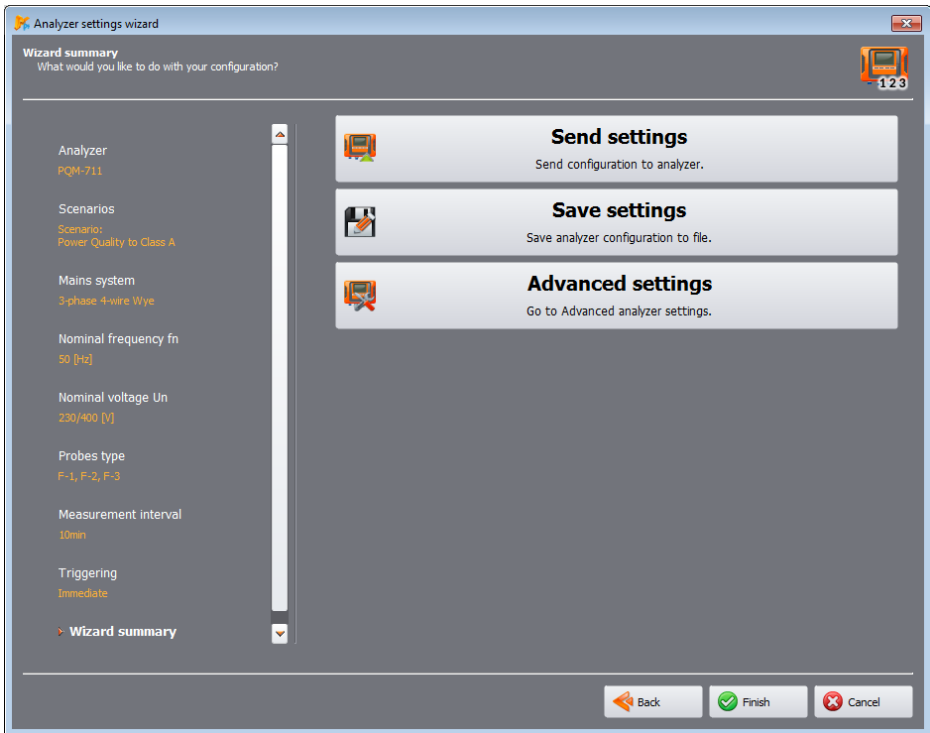

Fig. 15. Settings wizard – summary.
- **WIZARD SUMMARY** – the last step of the wizard (Fig. 15) allowing user to send the created settings to the analyzer (click **SEND SETTINGS**). If the analyzer is not connected, the selection and connection procedure will be started (sec. 2.1), and then the settings will be sent. Note: The entire contents of the memory will be deleted. The wizard as default uses **CONFIGURATION 1** of the analyzer; it also reserves for it the entire analyzer memory space. The setting created with the Wizard may be saved on the disk for later use as a file \*.*settings* (option **SAVE SETTINGS**). Alternatively, you can select **ADVANCED SETTINGS**, where the initial settings may be viewed and modified and then sent to the analyzer (window **ADVANCED RECORDING SETTINGS**, will be shown as in sec. 3.2).